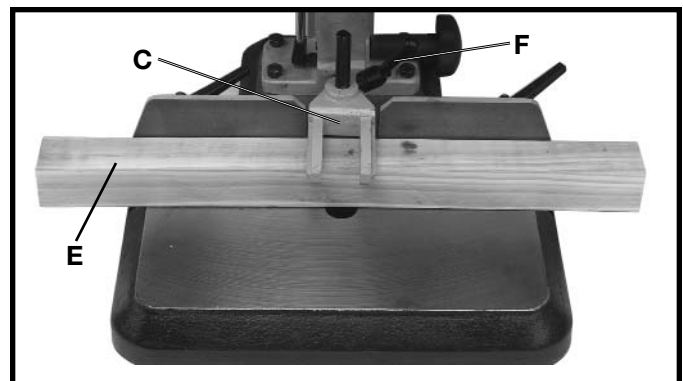

Fig. 25
The purpose of the holddown (C) Fig. 25, is to prevent the workpiece (E) from lifting as the chisel is raised up, out of the hole. The holddown (C) should be adjusted so it just touches the top of the workpiece (E) and allows the workpiece to slide left or right. The holddown (C) can be turned upside down to accommodate thicker workpieces. To adjust the holddown (C), loosen handle (F), position holddown, and tighten handle (F).